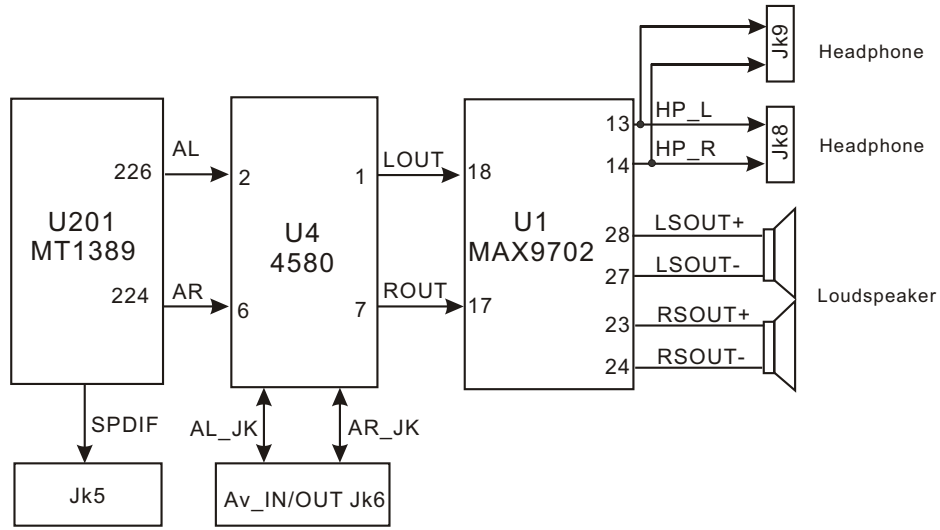

Figure 3.2.7.1 Audio output circuit block diagram
1. Audio output circuit block diagram is shown as in the following figure 3.2.7.1: